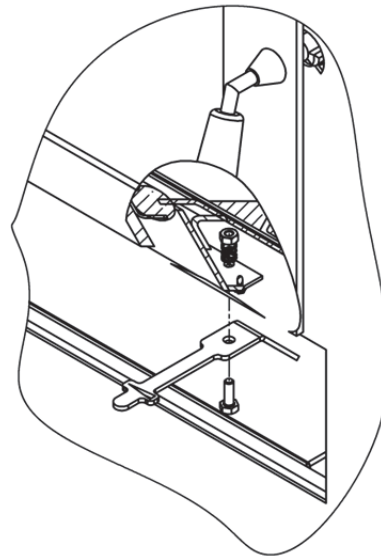

Figure 4 Draft control handle assembly
4. Install the extended handle in the same fashion as the original (see Figure 4). Do not over tighten the nut; the handle should move freely, but should not feel loose.